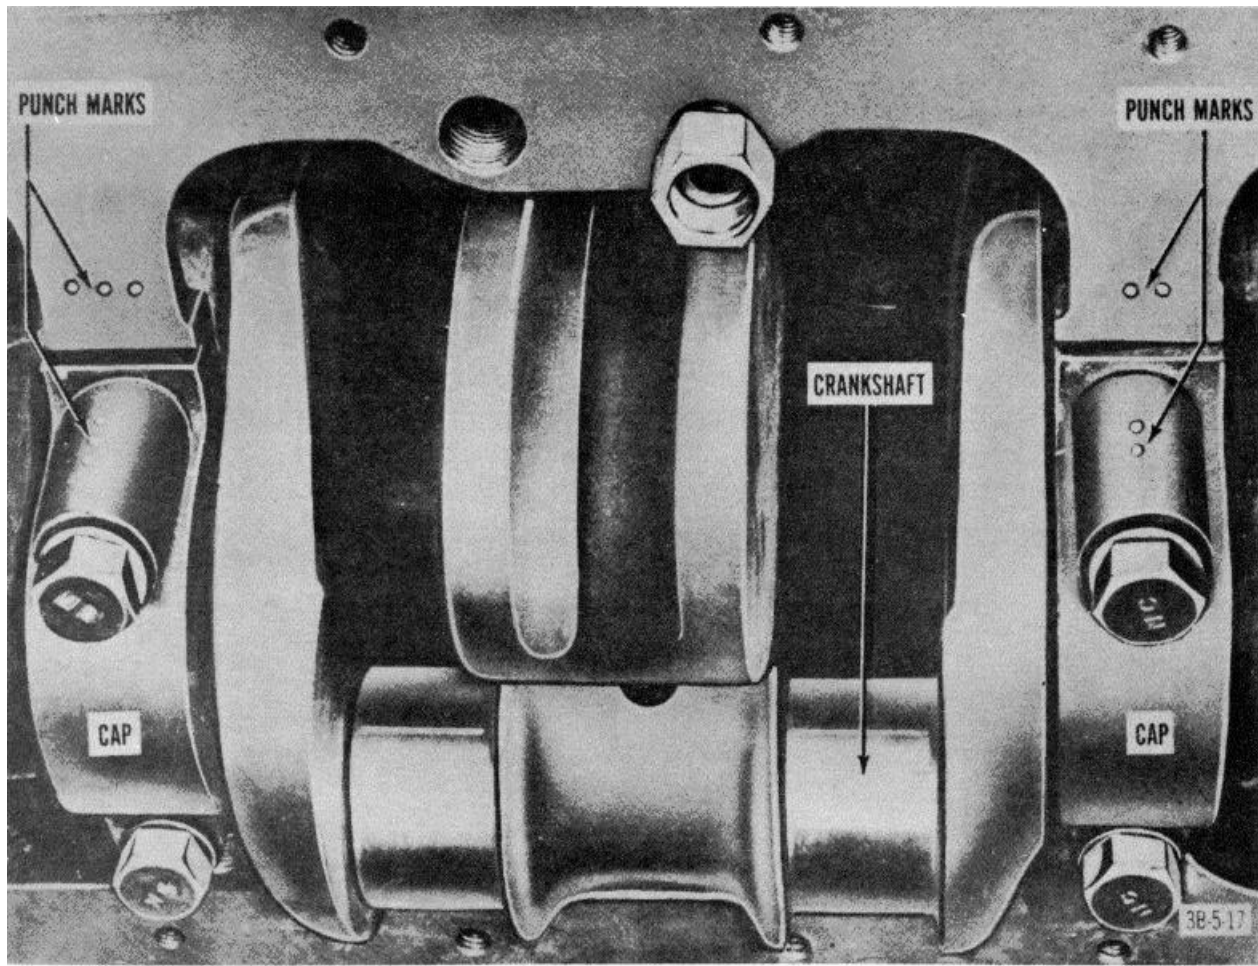

Figure 11. Punch marks on cylinder block and crankshaft bearing caps.
- (10) Remove front filler block (22) and seal by taking out two bolts and washers.
- (11) Punch-mark the main bearing caps and the cylinder block to assure correct installation (fig. 11).
- (12) Remove lock wires and take out two bolts and washers from each cap (11, 12, 13, and 14, fig. 4). Note punch marks on bearing caps (fig. 11).
- (13) Lift bearing caps off dowel pins
- (14) Lift out the crankshaft and press off crankshaft timing gear if necessary.